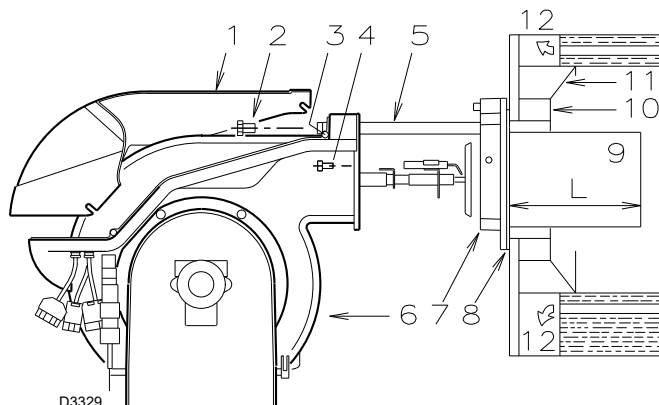

Fig. 9
The length of the blast tube 9)(Fig. 9) must be selected according to the indications provided by the manufacturer of the boiler, and in any case it must be greater than the thickness of the boiler door complete with its fettling.
For boilers with front flue passes 12)(Fig. 9) or flame inversion chambers, protective fettling in refractory material 10) must be inserted between the boiler fettling 11) and the blast tube 9).
Disassemble the blast tube 9)(Fig. 9) from the burner 6) by proceeding as follows:
- retract the burner on its slide bars as shown in (Fig. 9 at page 14);